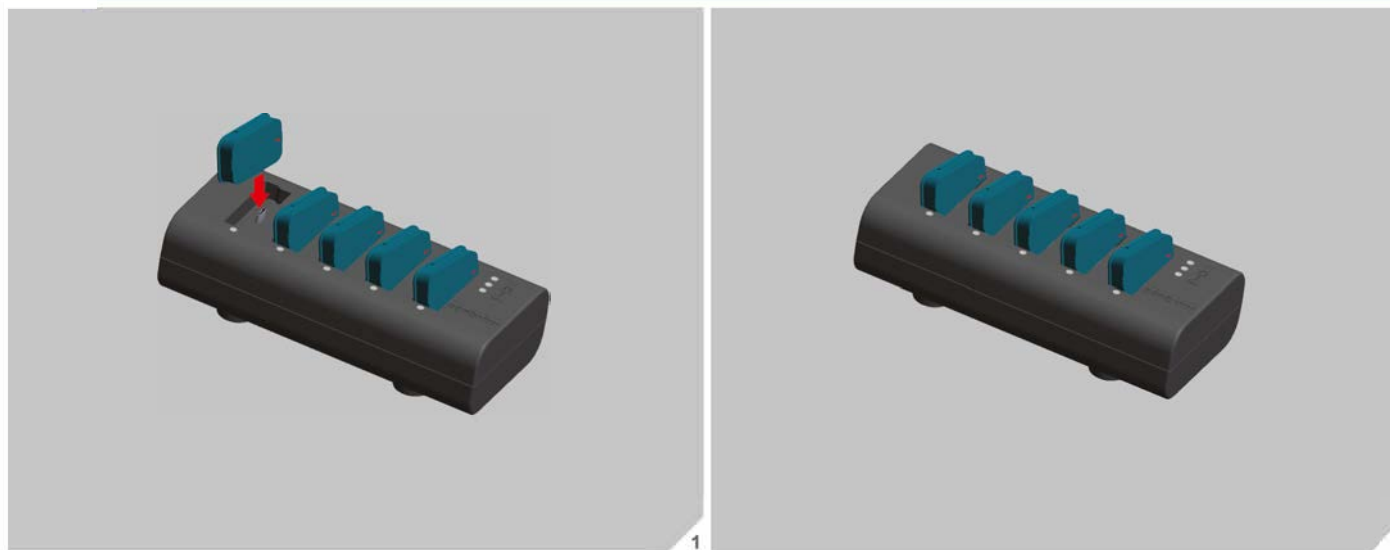

Figure 23. Placing Monitoring Device into the slot of the SmartBox
- Place the Monitoring Device into the last slot of the SmartBox, as shown in Figure 23